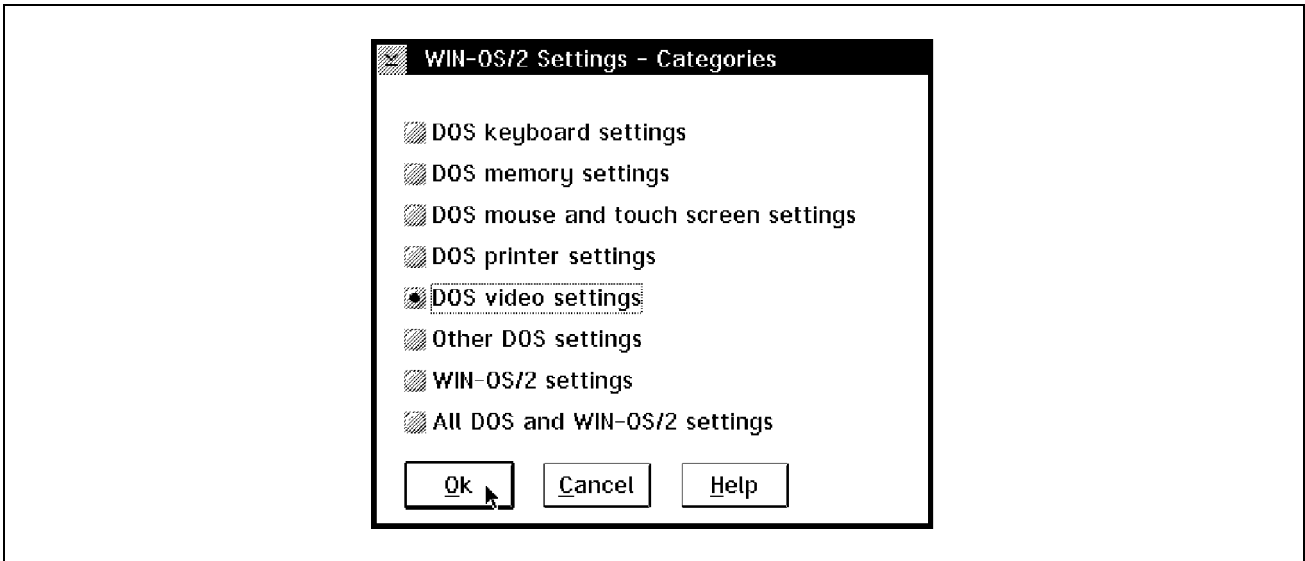

Figure 21. Selecting DOS Video Settings
5. Select **DOS Video Settings** as shown in Figure 21 on page 83. Select **OK**.